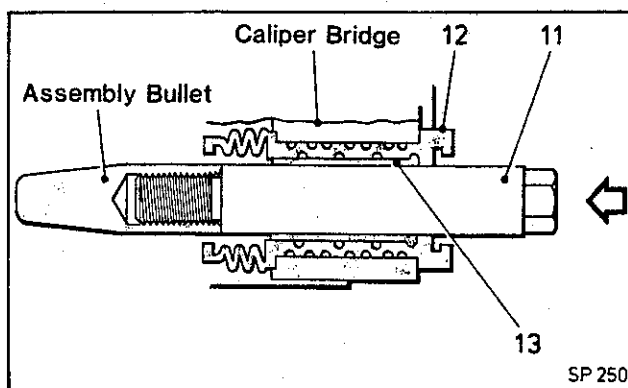

Fig. 4 Slide pin replacement
Grease and refit slide pin (11) (replace if necessary) with the use of the assembly bullet supplied in the Service Kit (see Fig. 4). This prevents damage or displacement of the split plastic sleeve.